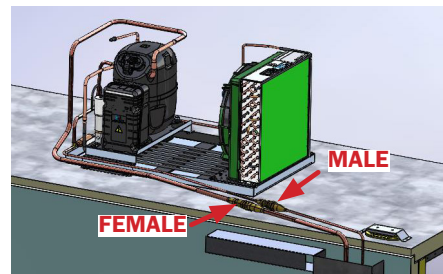

Fig. 14 Male and female piping connections
4. With the covers removed, couplings can be disconnected to safely remove condensing unit (Fig. 14). Using a 7/8" wrench, disconnect the male piping connection. Using a 15/16" wrench, disconnect the female piping connection.